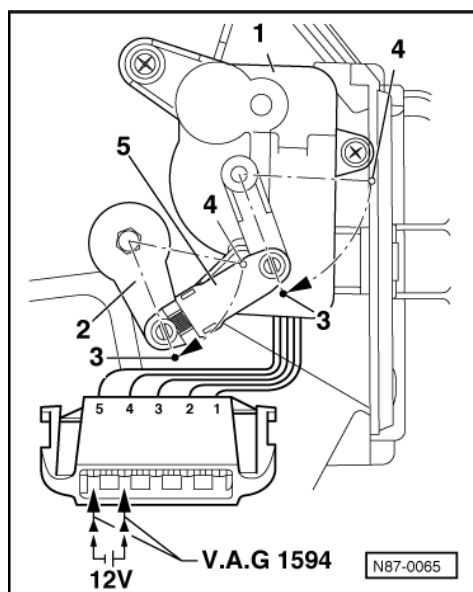

Fig.3 -> Checking end position of control motor -V68- when installed
- ◆ Adjusting cable at footwell/defrost flap => Fig. 3
-> Fig.3 Adjusting cable at footwell/defrost flap
- Adjusting cable at footwell/defrost flap => Fig. 3
- ♦ Check end position of control motor when installed =>Fig. 3
- Removing heating and fresh air controls => Page 25 , Fig. 3 .